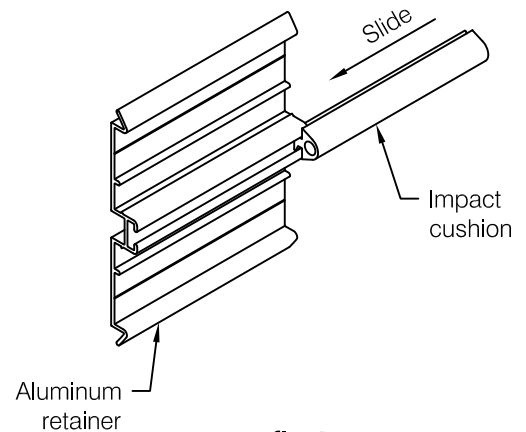

fig 4
- Step 5:** Install flexible impact cushion by sliding it into opening provided in aluminum retainer, see **fig 4**.